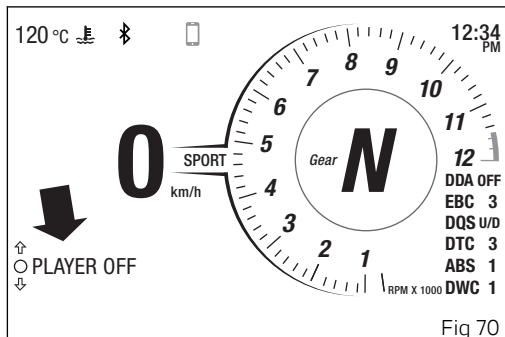

Fig 70
If the music player control is set to "OFF" (Fig 70), press ENTER button to activate it. With the music player control active, the display shows the title of the track currently being played on the connected smartphone (A), together with the available controls (B), and the "EXIT" indication preceded by the black arrow facing downwards (C).
The function is then shown as "PLAYER OFF" (Fig 70).